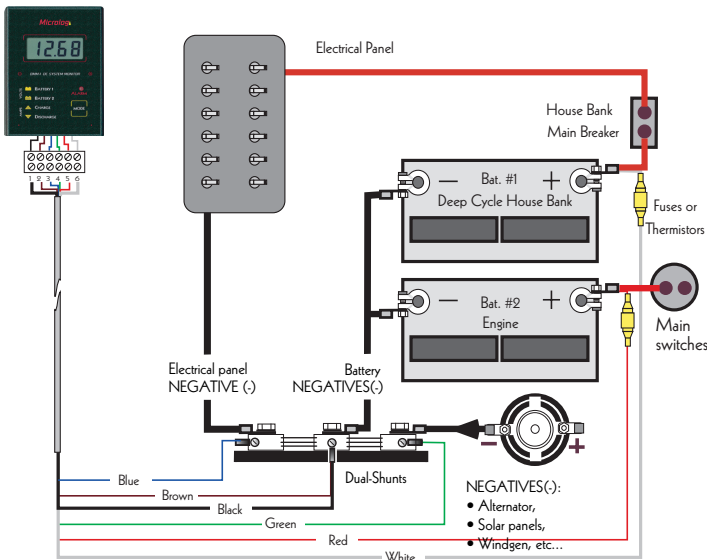

Figure 5: Installation for alternator with isolated negative or SMALL (4 cylinders and less) engines ONLY
Figure 5 show you the installation diagram in the following cases:
can use the Figure 5 Installation for small Engines with 4 cylinders and less, only, where you have Alternator Negative (-) Output connected to the Engine Mass. You install as in following steps except you will monitor alternator output through the shunt, installed inline with the Black Engine Mass Cable.
- You may have equipment (s) negative (-) (s) which are not connected to the Distribution Panel discharge shunt but rather on the Engine mass, boat keel or hull or RV frame instead. All the measured current must pass through the Charge and Discharge Shunts in line with the Negative Battery Wiring. The slightest leak between the alternator, chargers NEGATIVES or engine mass, connected to the charge shunt, and any discharging devices can cause errors or falsify readings of the separate charging or discharging circuits. It is therefore very important to have wiring connected as in Figure 5 or 6.